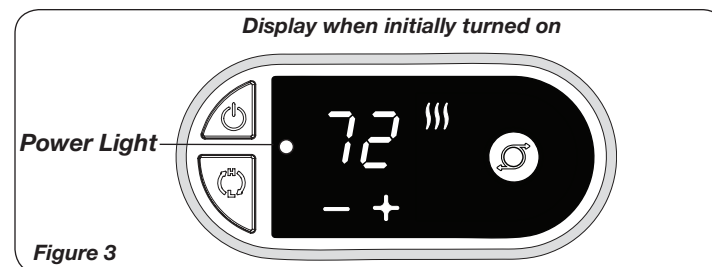

Figure 3
6. Upon turning the Heater on, the unit will be in HIGH heat (III) (1500 Watts) and will display the current room temperature. (Figure 3)
7. Press the (C) button for LOW heat (I).